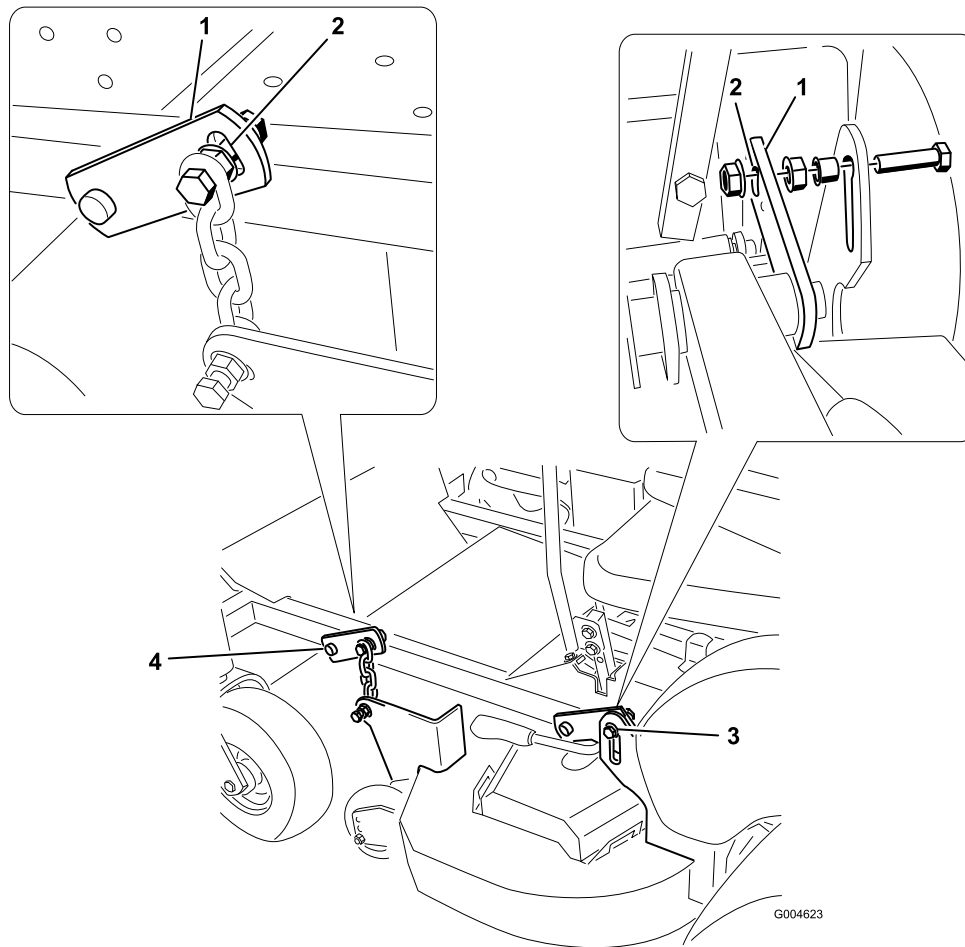

Figure 53
7. Loosen the bolts connecting the two chains and the two rear brackets to the mower (Figure 53).
8. Adjust the two rear bolts so they are in the middle of the slot located in the pivot bracket (Figure 53).
10. Adjust the discharge side front bolt so it is in the middle of the slot located in the pivot bracket (Figure 53).